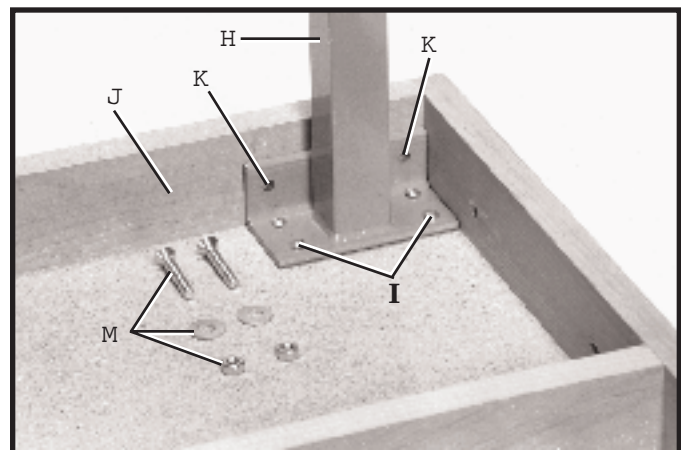
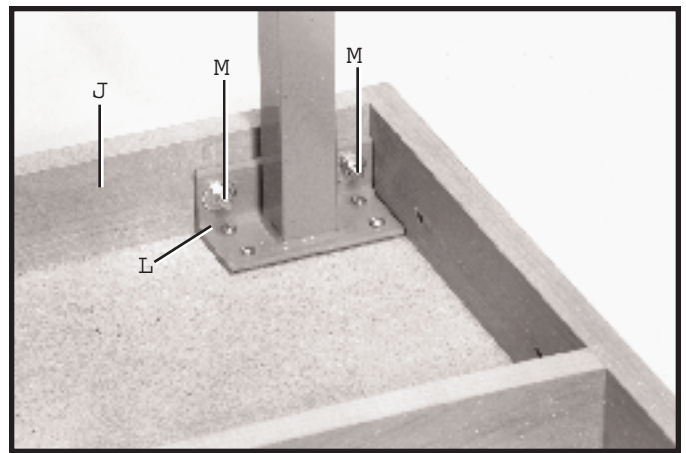

Fig. 11
Fig. 12
9. Figure 11 illustrates one of the legs (H) fastened to the bottom of the extension table with the four wood screws (I). Using a 1/4" drill bit, drill two through holes through the end piece (J) of the table using the two holes (K) as a template.
10. Fasten the leg bracket (L) Fig. 12, to the end piece (J) of the table using the two 1-1/2 long flat head Phillips screws, flat washers and hex nuts (M) Figs. 11 and 12. Fasten the remaining leg to the extension table in the same manner.